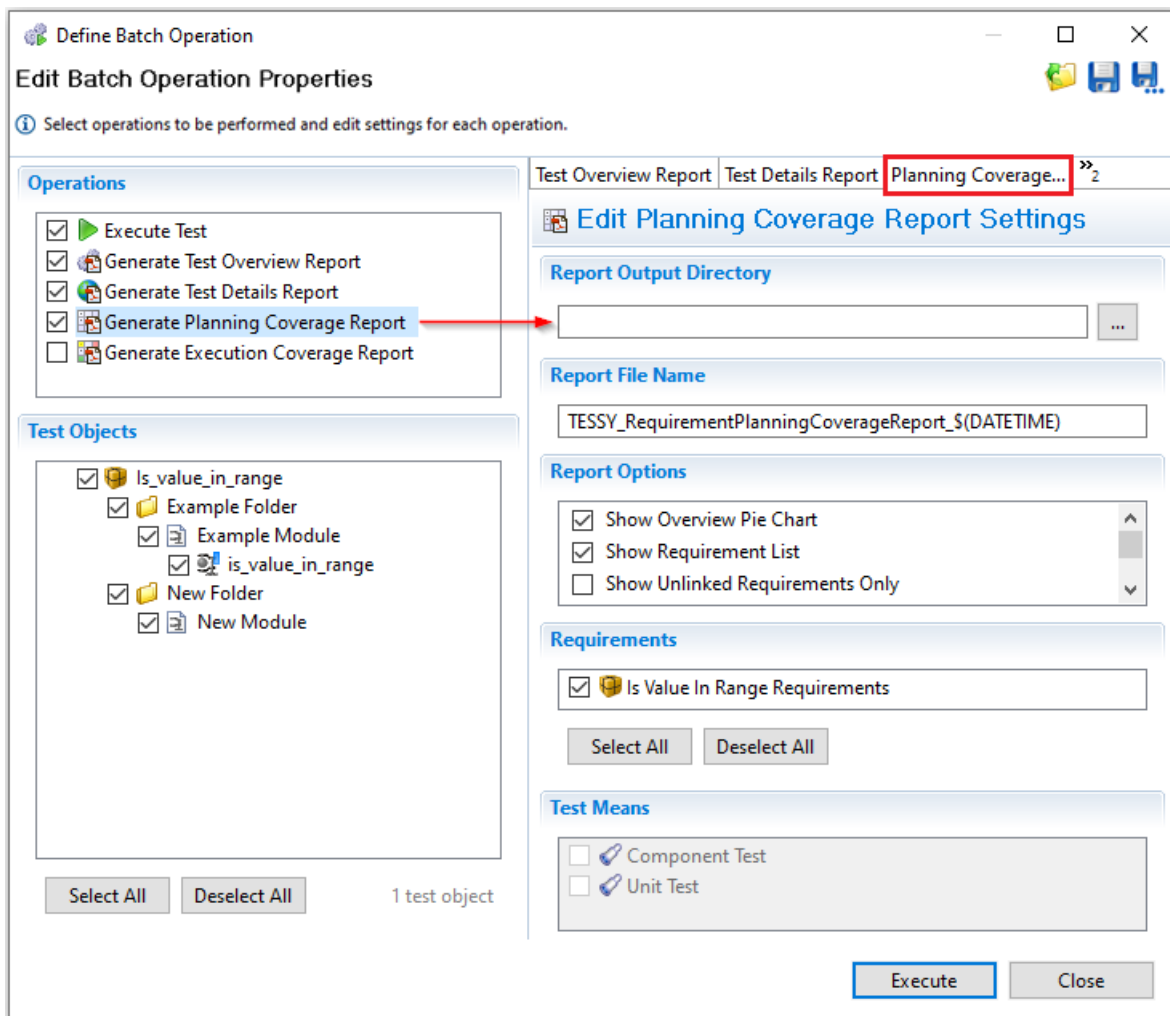

Figure 6.54: Editing the settings of each batch operation
- Switch to the setting by either marking the operation on the left side or use the tabs on the upper right side (see figure 6.54). The optional settings for this operation will then be shown on the right side of the window.